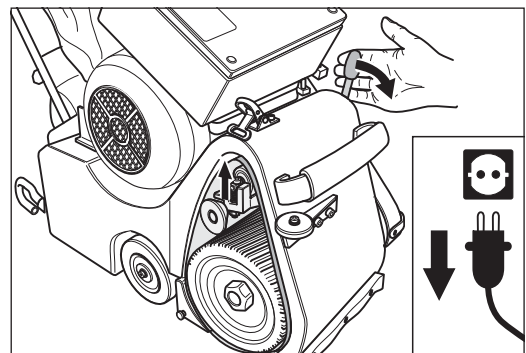

Fig. 32 Tension the sanding belt by lowering the operating lever. **Otherwise, damage or injury can occur!**
- 8 To tension the sanding belt, press the operating lever of the drive unit downwards (Fig. 32). **Otherwise, damage or injury can occur!**
- **Always** tension the sanding belt before switch on the machine (Fig. 32)!